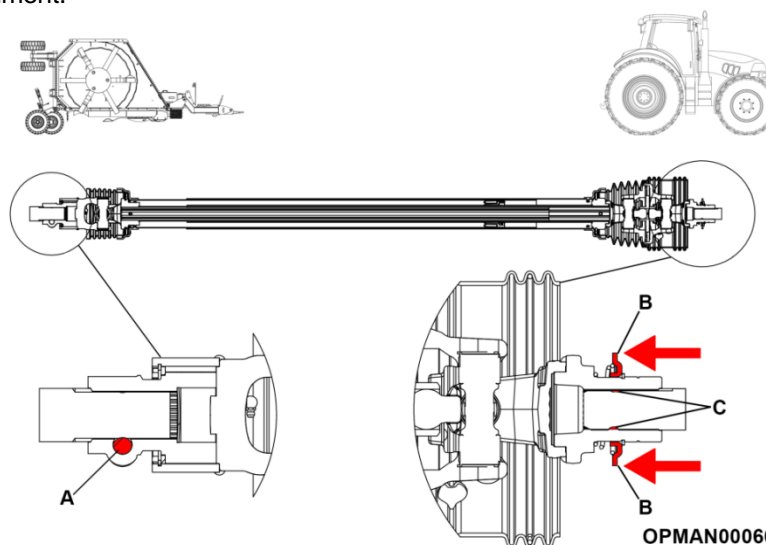

Figure 4.11 – Stubble Master Input Shaft Fitting & Removal
- 4.5.1.1 Proceed to remove the taper pin, flat washer and nut from the machine end of the input PTO shaft. See Figure 4.11.
- 4.5.1.2 Install the input PTO shaft onto the splitter gearbox lining up the slot in the splitter gearbox shaft with where the input shaft taper pin will be placed; see Figure 4.11 (A). Replace the removed taper pin, flat washer and nut and tighten to a torque of 230Nm (170 ft/lbs).
- 4.5.1.3 Pull the input shaft yoke collar back and align the grooves and splines with those of the PTO output shaft of the tractor; see Figure 4.11 (B).
- 4.5.1.4 Push the driveline yoke onto the tractor output PTO shaft, release the locking collar and position the yoke of the input shaft until the locking collar balls are seated onto the tractors output PTO shaft; see Figure 4.11 (C).
4.5.1.6 Pull the input shaft yoke collar back and pull back the shaft off the output splined shaft of the tractor; see Figure 4.11 (B).